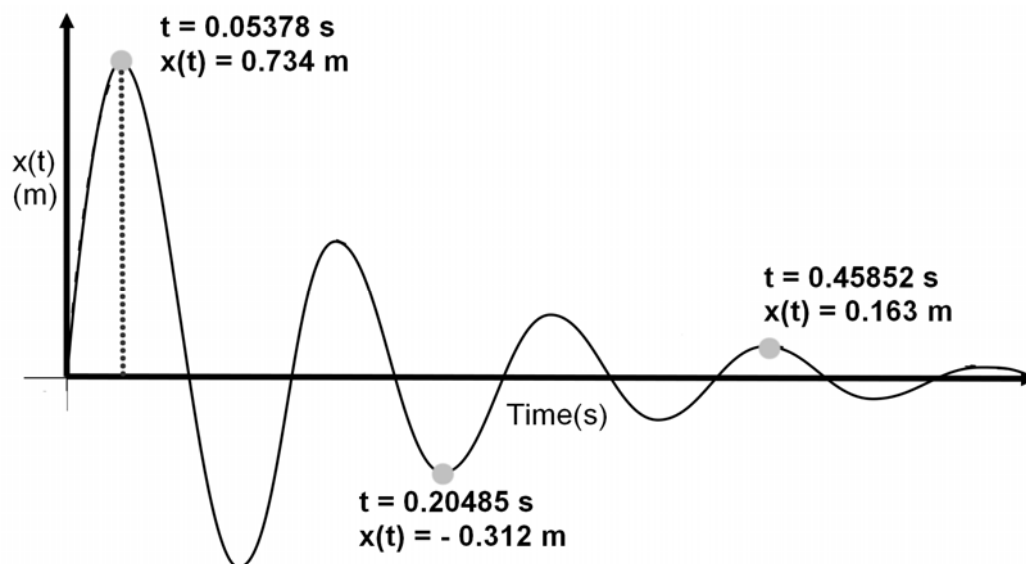

Figure Q1(c)
- (c). **Figure Q1(c)** shows a time response for a single degree of freedom system undergoing decay oscillation due to the existence of viscous damping. Based on **Figure Q1(c)**, compute: